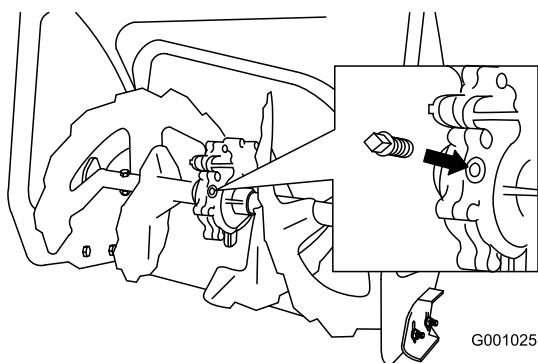

Figure 48
2. Clean the area around the pipe plug (Figure 48).